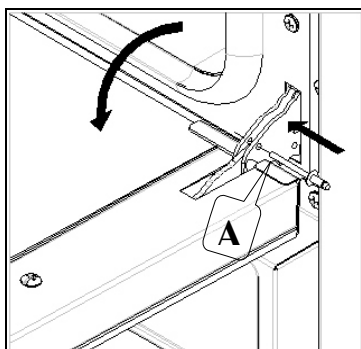

Fig. 7
- insert the equipped plugs in the "A" holes on the hinges (Fig. 7);